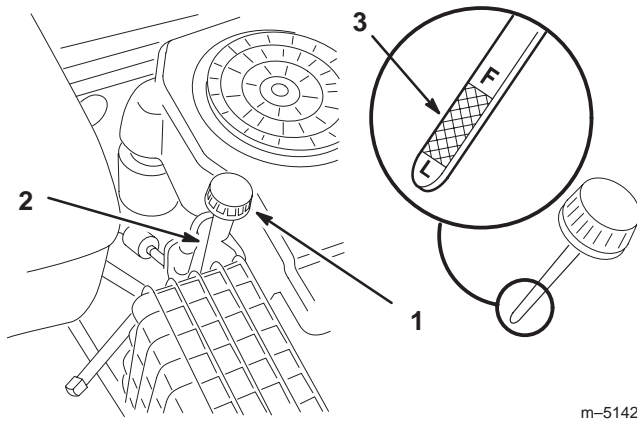

Figure 16
2. Clean around the oil dipstick (Fig. 16) so that dirt cannot fall into the filler hole and damage the engine.
3. Unscrew the oil dipstick and wipe the metal end clean (Fig. 16).
4. Slide the oil dipstick fully into the filler tube, but do not thread it onto the tube (Fig. 16). Pull the dipstick out and look at the metal end. If the oil level is low, slowly pour only enough oil into the filler tube to raise the level to, but not over, the "F" mark on the dipstick.
8. Slowly pour approximately 80% of the specified amount of oil, page 22, into the filler tube (Fig. 16).